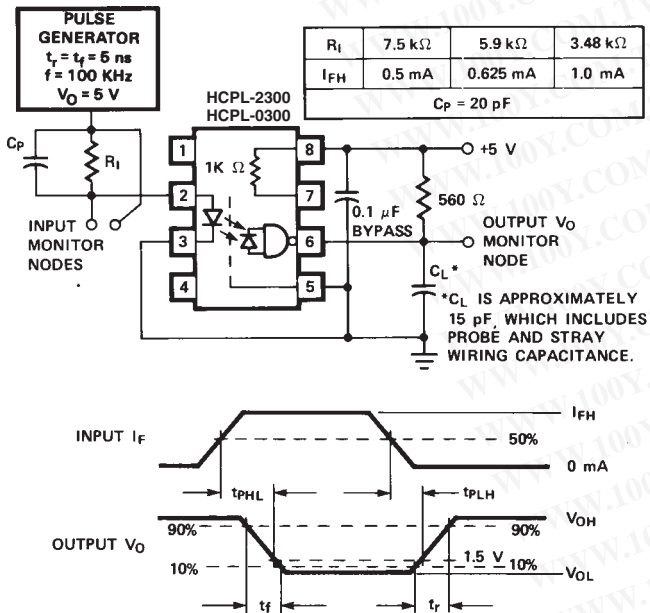

Figure 8. Test Circuit for t_{PHL} , t_{PLH} , t_r , and t_f .
- C_P is the peaking capacitance. Refer to test circuit in Figure 8.